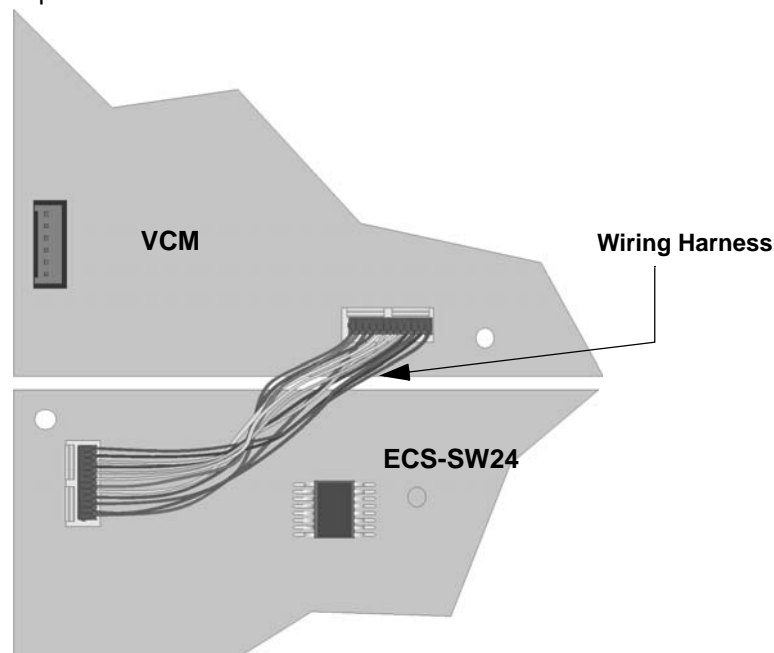

Figure 4-4 Wiring Harness Connection for VCM to One ECS-SW24
5. For the IFP-100ECs or IFP-1000ECS, Connect one end of the wiring harness (P/N 130398 supplied) to the ECS-VCM and the other end to the ECS-SW24 as shown in Figure 4-4.